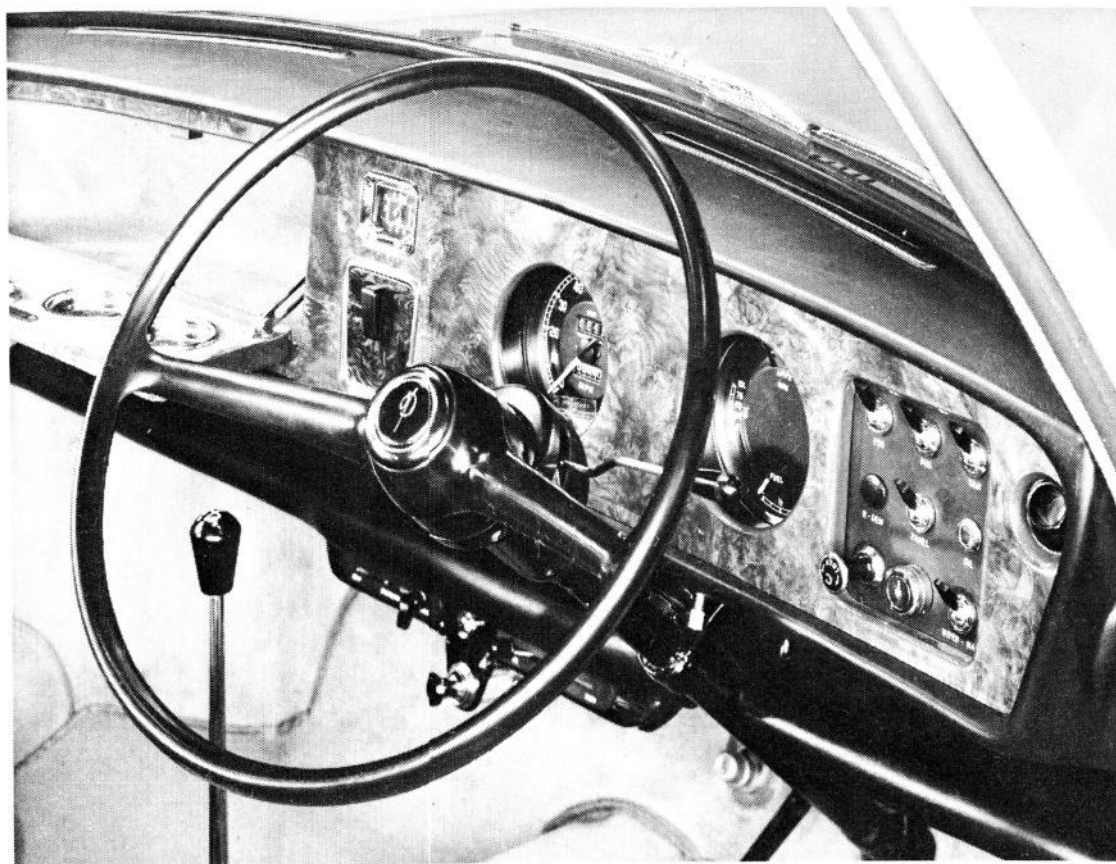

Fig. 15. Vanden Plas Princess 1100, facia
**Vanden Plas Princess 1100 (Fig. 15):**